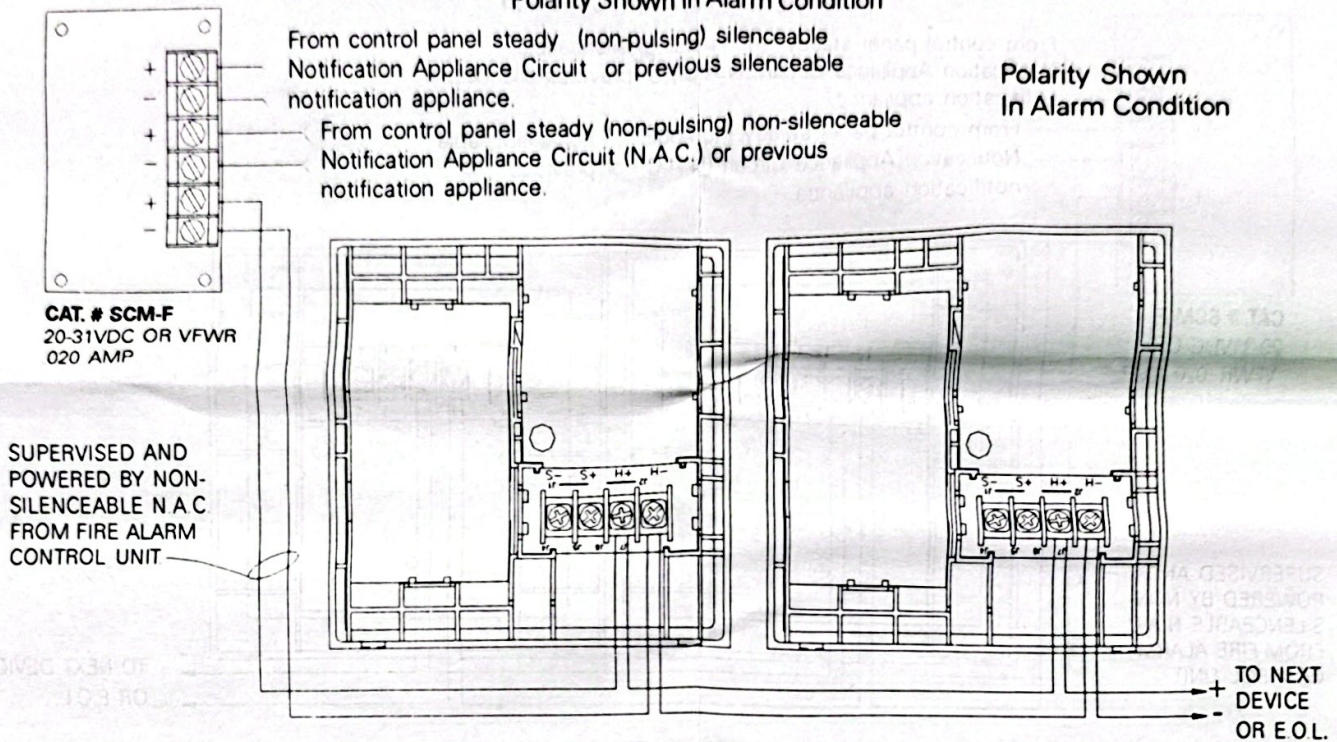

Fig. 6
3. Connect wiring (see fig. 6 or 6a).